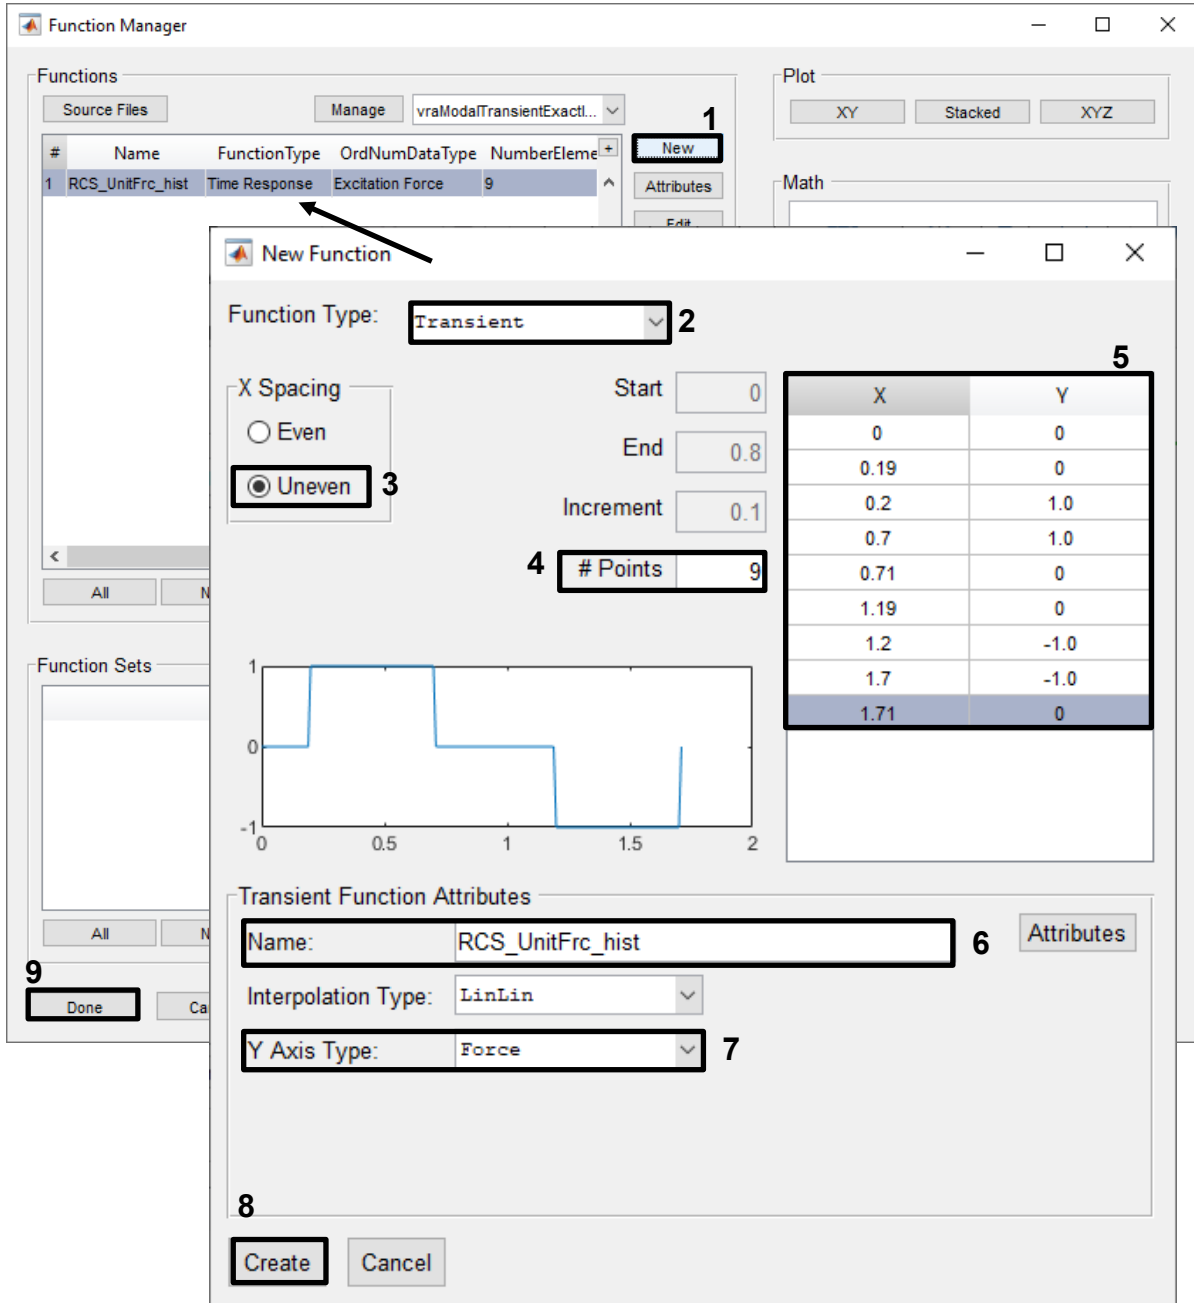
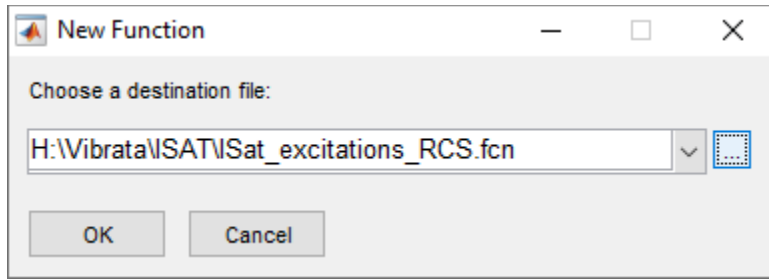

Figure 4-94. Thruster force transient for Isat maneuver.
Figure 4-95. Save the Isat thruster forcing function to a file.
5. In the Function Manager, you will create a time function to excite the Isat transient event. If you have already run the random examples in section 4.3.1, open the "Isat\_excitations.fcn" file used there; if that file does not currently exist, you will create it when you have finished defining the function for the current example. As shown in Figure 4-94, create a new transient function, set its Y-axis to *Force*, give it uneven X-spacing, set the number of points to 9, and assign it the X and Y values shown. The pulses have unit amplitude; this will let us size the RCS thrusters just by scaling the excitations. Remember to give the function a recognizable name. Click **Create** to store the function to an *fcn* file (Figure 4-95). Click **Done** on the Function Manager to return this function to the Point Force dialog. Assign it a scale factor of